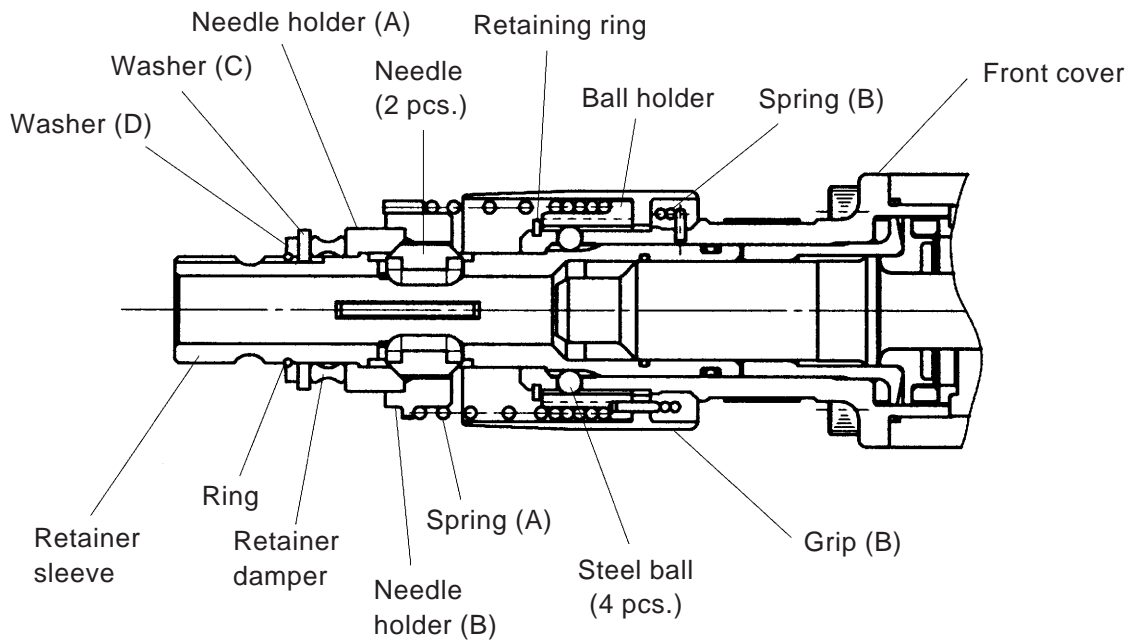

Fig. 3
Remove the Ring [3] by means of a snap ring remover, then Washer (D) [4], Washer (C) [5], the Retainer Damper [6], Needle Holder (A) [7], Needle Holder (B) [9], the two Needles [8] and Spring (A) [10] can be removed from the Retainer Sleeve [19]. Furthermore, remove the Retaining Ring [11] by means of a snap ring remover, then the Ball Holder [12], Grip (B) [13], the four Steel Balls [16] and Spring (B) [14] can be removed from the Front Cover [18] (Fig. 3).